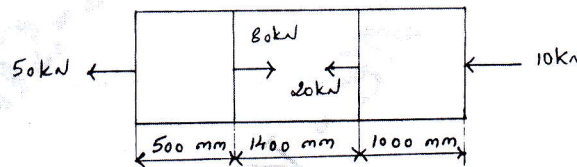

Fig.Q1(b)
- b. A brass bar having cross-sectional area  $300 \text{ mm}^2$  is subjected to axial focus as shown in Fig.Q1(b) below. Find the total elongation of the bar.  $E = 84 \text{ GPa}$ .